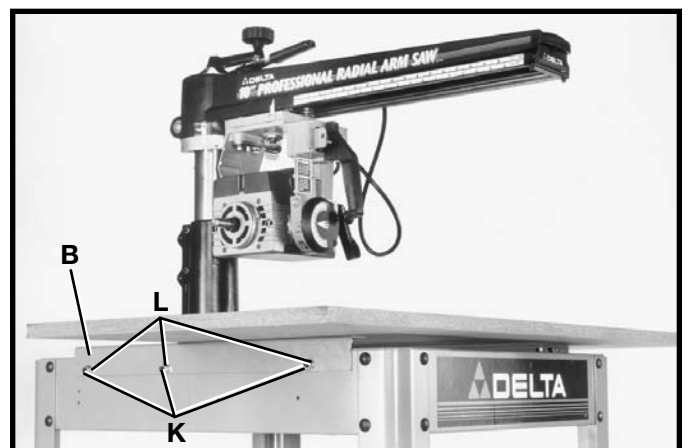

Fig. 18
4. Secure table supports, one of which is shown at (B) Fig. 18, to each side of saw base using six 5/16-18 x 5/8" long carriage head screws (K) and six flanged hex nuts (L). Do not completely tighten nuts at this time. **IMPORTANT: Insert screws through saw base table supports from the inside and place flanged nuts on screw on engaged side of base as shown.**